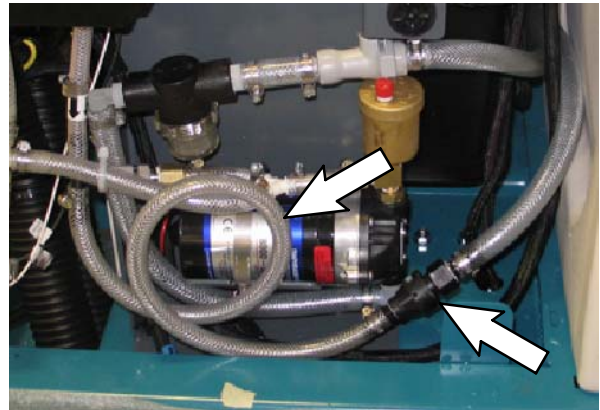

FIG. 15
27. Connect hose from the scrub head to the *ec-H2O* assembly outlet hose. Refer to Fig. 15.
*NOTE: Be sure the outlet hose from *ec-H2O* assembly is looped as shown in Fig. 15.*